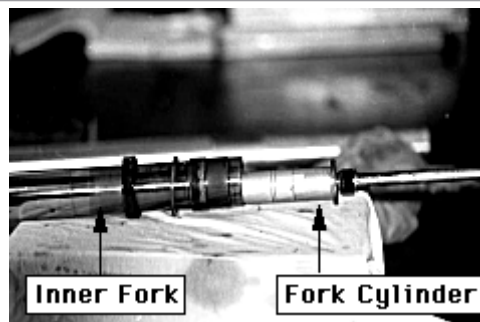

Fig 9
13. Remove the fork cylinder from the inner fork, **fig 9**.
39. Put the fork cylinder into the inner tube, **fig 9**, making sure that it is securely in the hole at the bottom of the axle holder. The easy way to check this is by looking through where the compression adjuster goes and looking to see if it is bottomed out.